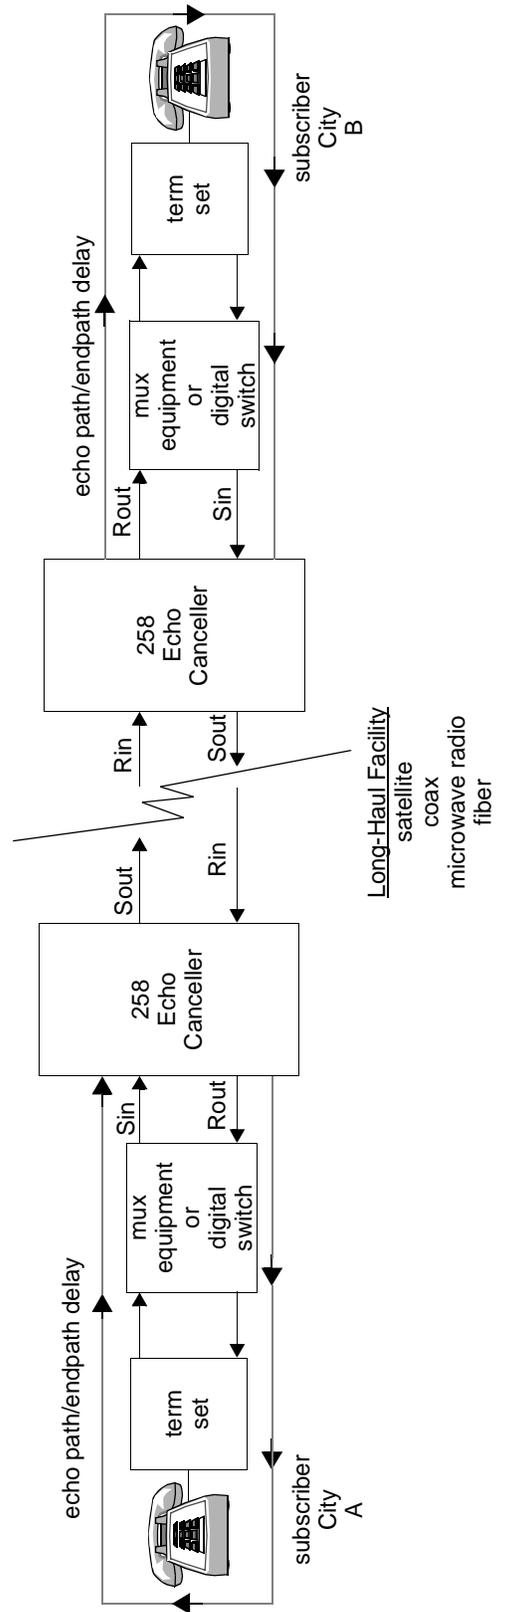

Figure 2-1 Typical 258 system long-haul facility network application
- 2.23 A typical 258 system application is shown in Figure 2-1. The primary cause of echo received at City B is the 4-wire-to-2-wire VF terminating set at City A. Transmission signal reflections at this interface are heard as echo in the corresponding far end receive channel. The City B 258 system actually protects the far end receive channels from echo. The City B 258 system protects City A receive channels from echo. This split-type configuration provides effective echo control regardless of the total delay in the intermediate transmission links.
- 2.28 When calculating endpath delay, the total round-trip delay between R-out and S-in (see Figure 2-1) must be considered.